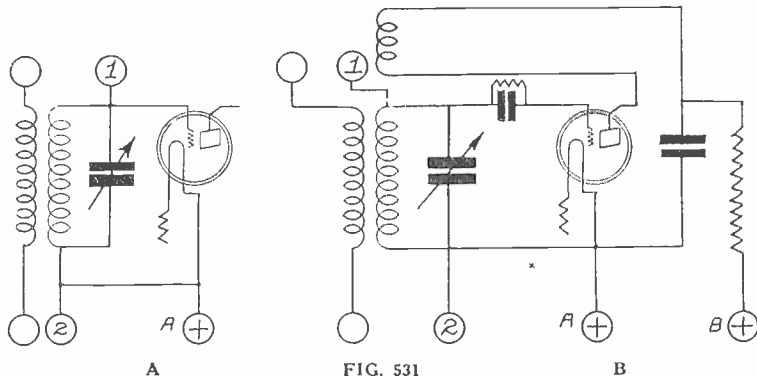

FIG. 531 The circuit diagrams illustrating how to connect up loops, requested by Harry Merle.
(1)—In Fig. 531, A, this is illustrated. Connect at 1 and 2. The transformer windings are, of course, disconnected from the variable condensers. (2)—Fig. 531, B, illustrates this point. Connect loop at points 1 and 2. The windings are, of course, also disconnected here. There is no fundamental difference between the connecting of the loop in both circuits, you will note. (3)—Yes. Use one that is approximately one hundred and twenty-five feet in total length. (4)—Yes. (5)—Yes.